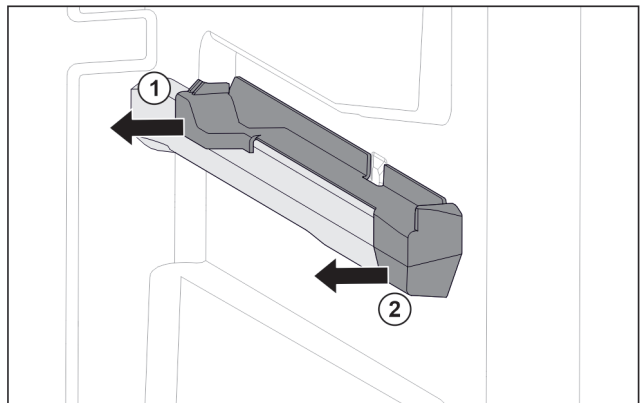

Fig. 146 Attachment on the right moulded rib
- ▶ Pull off attachment at the back sideways. Fig. 146 (1)
- ▶ Pull off attachment at the front sideways. Fig. 146 (2)